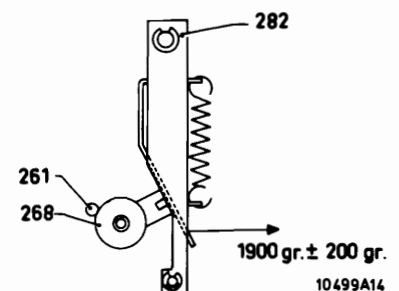

Fig. III-23
Set the recorder to threaded-in position and press the play-key. Check the pressure force of the pressure roller (Fig. III-23). It should be  $1900 \pm 200$  g. When the pressure force is outside the tolerances, spring item 283 must be replaced.